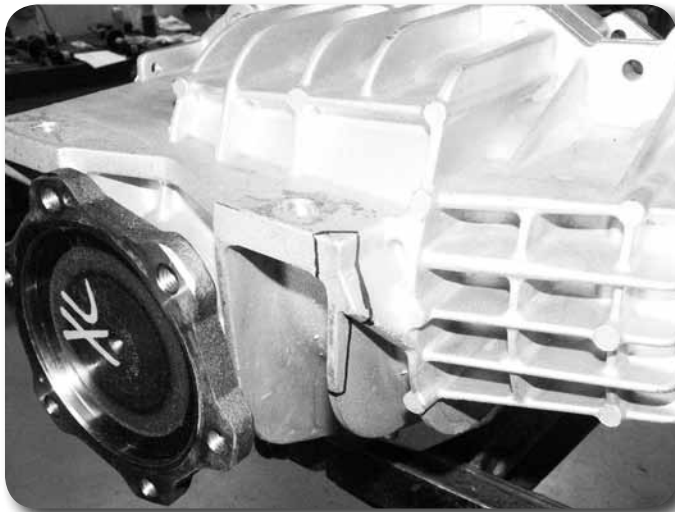

Figure 19
31. The small corner of the differential housing that will rest closest to the new weld-in plate needs to be slightly trimmed **Figure 19** to provide adequate clearance when installed. Only about 3/8" of material needs to be removed along the length of the corner. The trimming can be done with a reciprocating saw, hack saw or grinder. Measure from the top corner and mark 3/8" in both directions. Extended the cut lines down along the housing.